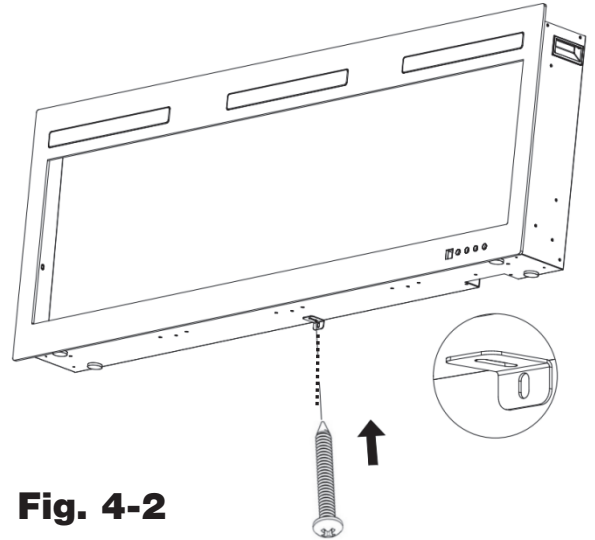

Fig. 4-2
- B.** Using the screw previously removed, attach the L-bracket (supplied) to the bottom of the fireplace box (**Fig. 4-2**).